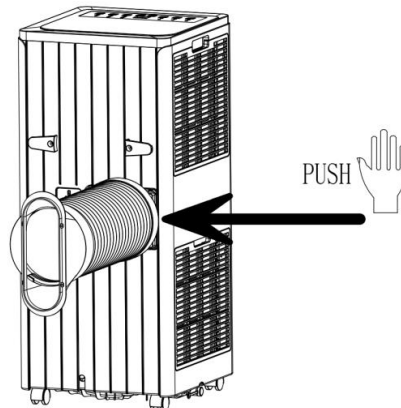

Figure 1
#### 1.1 Install the heat pipe assembly ( as shown in Fig.1 )
- 2) insert the heat pipe assembly (the end of the exhaust joint) into the back panel vent slot (push to the left) and complete the assembly (as shown in figure 1).